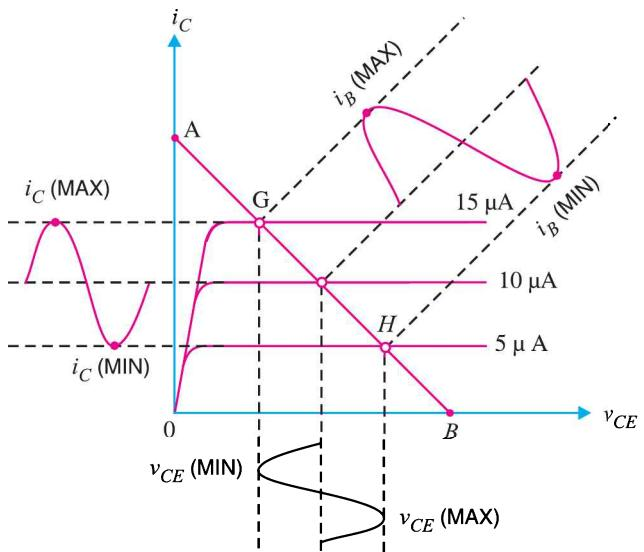

Fig. 10.6
**Graphical demonstration.** The fact of phase reversal in  $CE$  connection can be shown graphically with the help of output characteristics and load line (See Fig. 10.6).
In Fig. 10.6,  $AB$  is the load line. The base current fluctuates between, say  $\pm 5 \mu A$  with  $10 \mu A$  as the zero signal base current. From the figure, it is clear that when the base current is maximum in the positive direction,  $v_{CE}$  becomes maximum in the negative direction (*point G* in Fig. 10.6). On the other hand, when the base current is maximum in the negative direction,  $v_{CE}$  is maximum in the positive sense (*point H* in Fig. 10.6). Thus, the in-